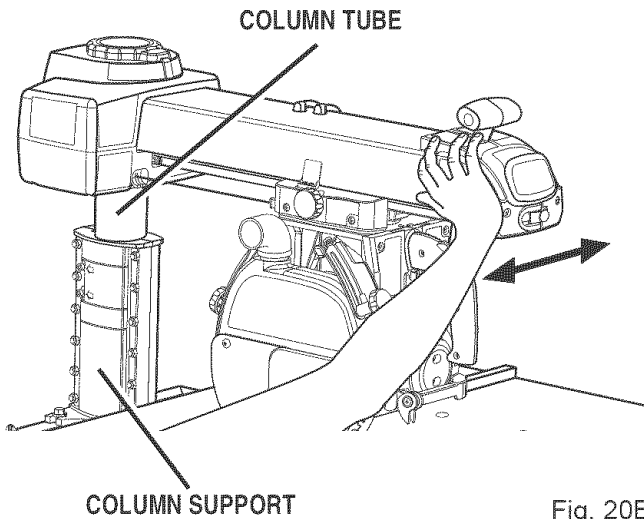

Fig. 20B
- **Rotation Check:** To check the rotation, hold the front of the arm with one hand and grasp the top of the column support with the other. Press the arm to the side. If there is play between the column support and the column tube, it needs to be adjusted. See Figure 20B.